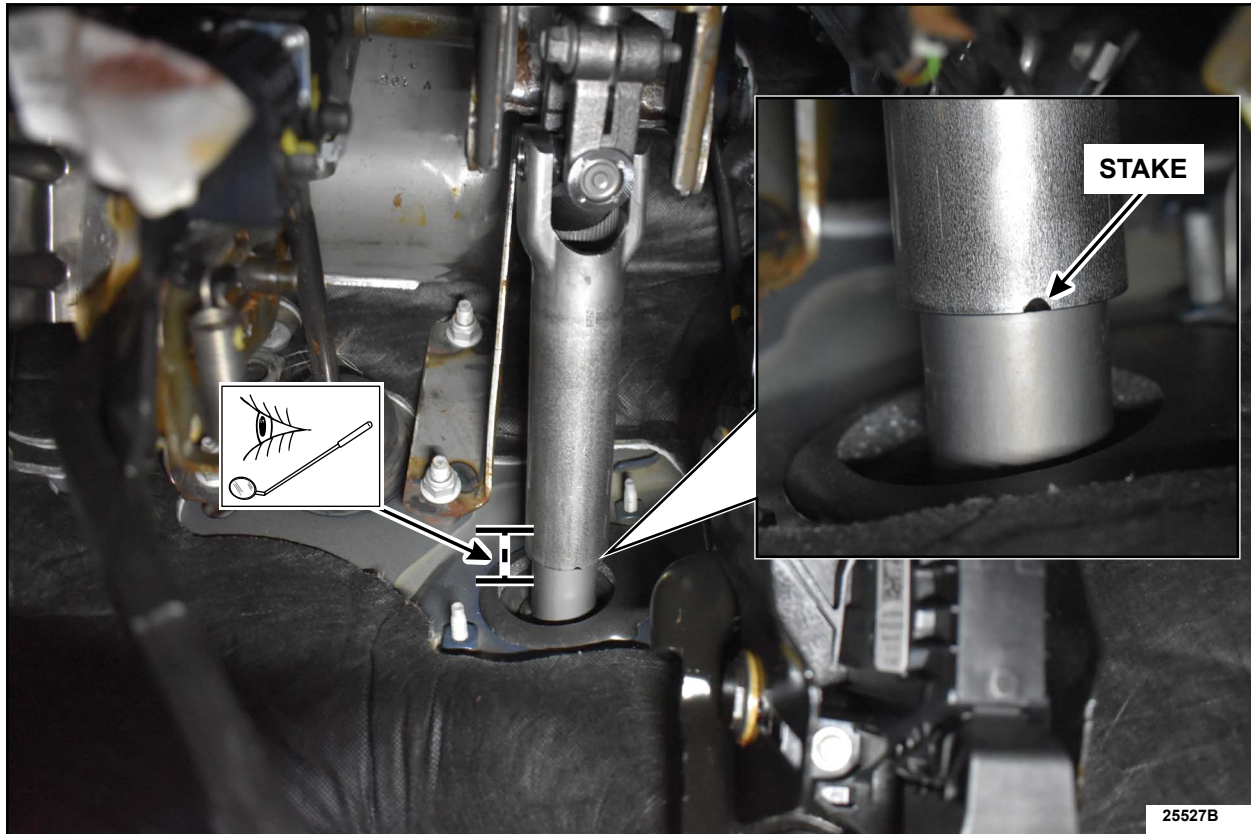

FIGURE 2
2. Inspect the steering column upper shaft for two stake marks 180 degrees from each other. You can rotate the steering wheel as necessary which will then rotate the steering column upper shaft to aid in locating the two stakes. See Figure 2.